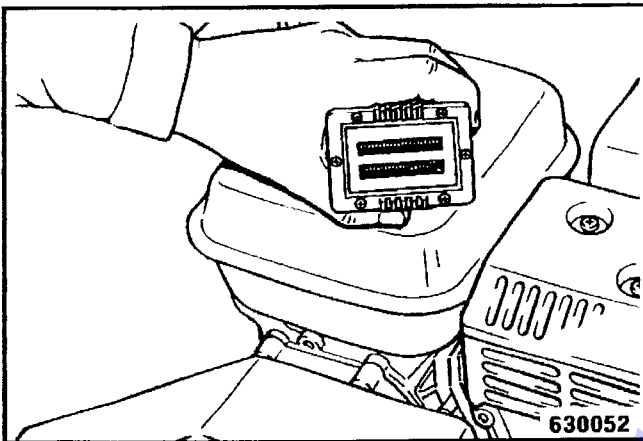

Fig. 1
- Check the cut-in speed by means of the frequency meter (Fig. 1) approx. 2000 rpm.